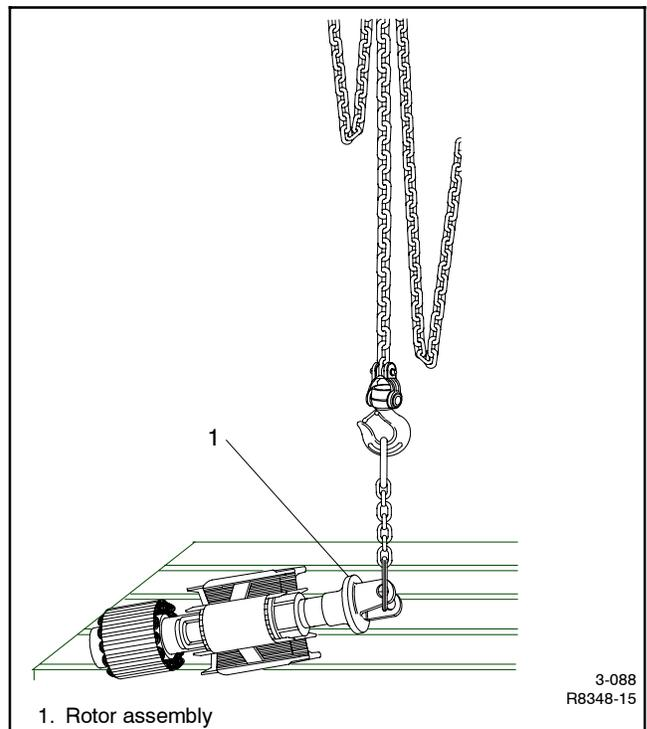

Figure 4-8 Lowering Rotor (20-300 kW rotor assembly shown)
- Slowly lower the rotor to the horizontal position. Set the rotor on a wooden surface. Take care not to damage the windings, laminations, or bearing. See Figure 4-8.